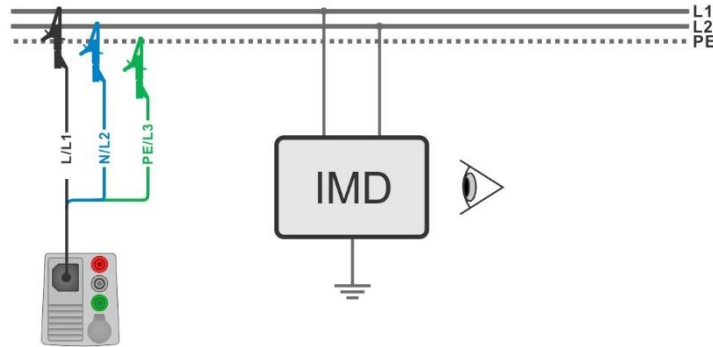
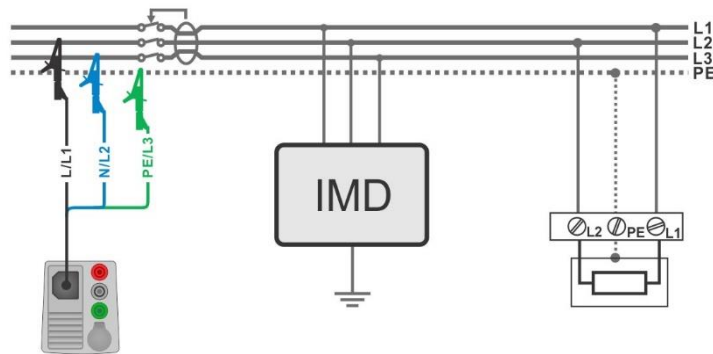

Figure 7.112: Measurement of highest First fault leakage current with 3-wire test lead
Figure 7.113: Measurement of First fault leakage current for RCD protected circuit with 3-wire test lead
- Connect 3-wire test lead to the object under test, see *Figure 7.112* and *Figure 7.113*.